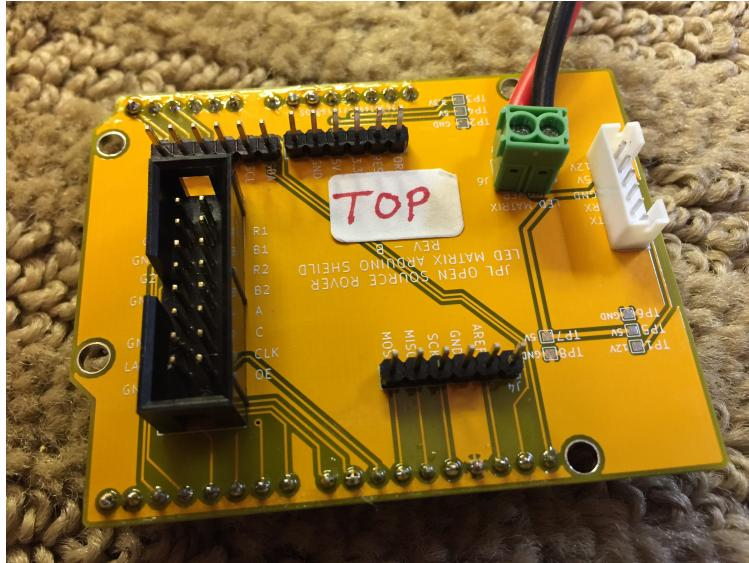

Figure 17: Assembled Arduino Shield
Now, we will assemble the Arduino shield that will sit in the rover's head and control the face. We will start with the **TOP** side of the Arduino board. The final product is shown in Figure 17.
1. Begin by taking the 2-position terminal block **E18** and soldering it to top of the board at the J6 connector, such that the screw terminals face outwards as shown in Figure 17:
2. Solder the 1x6 JST connector **E14** onto the top of the board at the J5 connector such that the notch in the connector faces **OUTWARDS** as shown in Figure 17:
3. Solder the 2x8 shrouded header pin connector **E19** to the top of the board at connector J1 such that the notch faces **OUTWARDS** as shown in Figure 17.